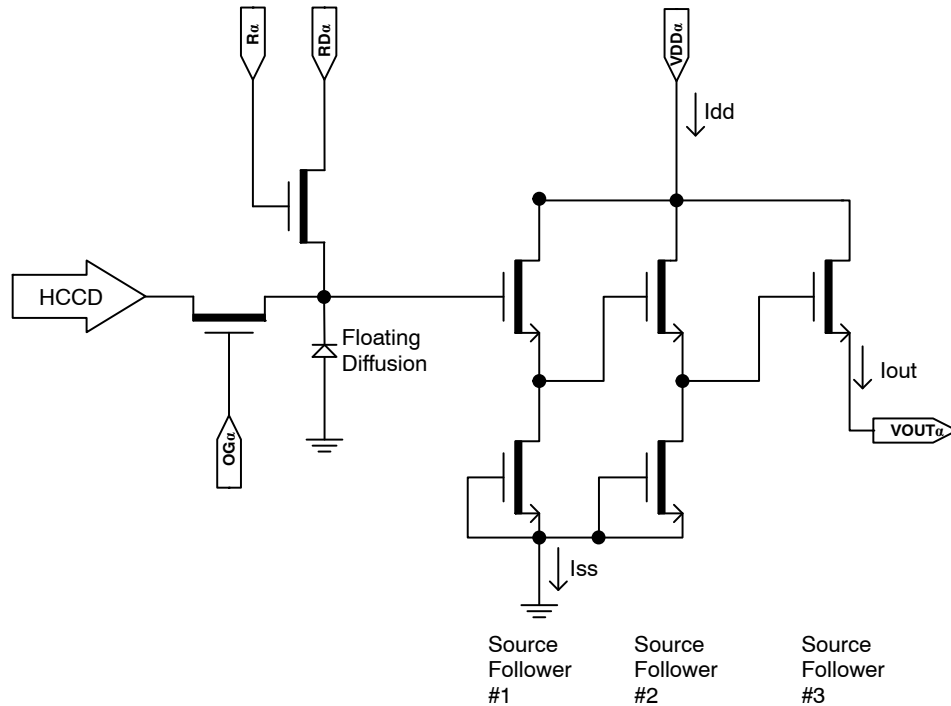

Figure 17. Output Amplifier
24. The maximum DC current is for one output.  $I_{dd} = I_{out} + I_{ss}$ . See Figure 17.